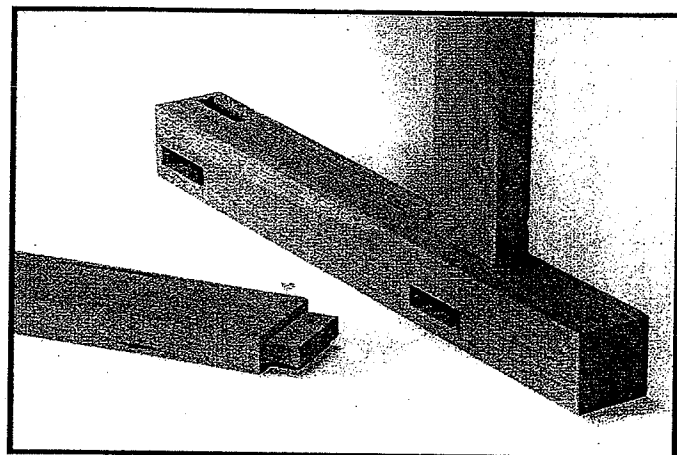

Fig. 34
5. Fig. 34, illustrates the mortising operation completed.